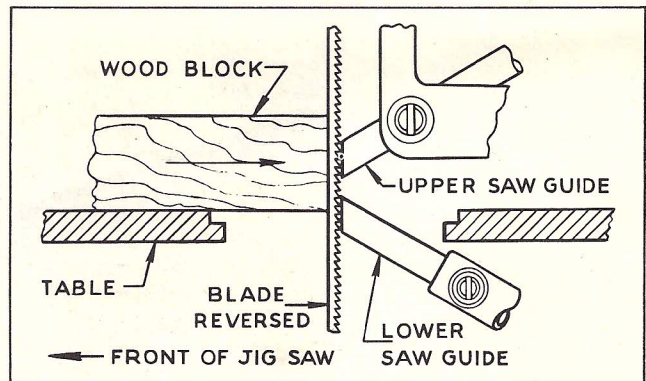

FIGURE 4
If in the future your present saw guides should require refacing or if new guides are installed, the faces should be slotted as follows: See figure 4.
3. Start the saw and push the blade lightly with a wood block as shown in figure 4 until a cut approximately 1/32 inch deep has been made in the face of each guide.